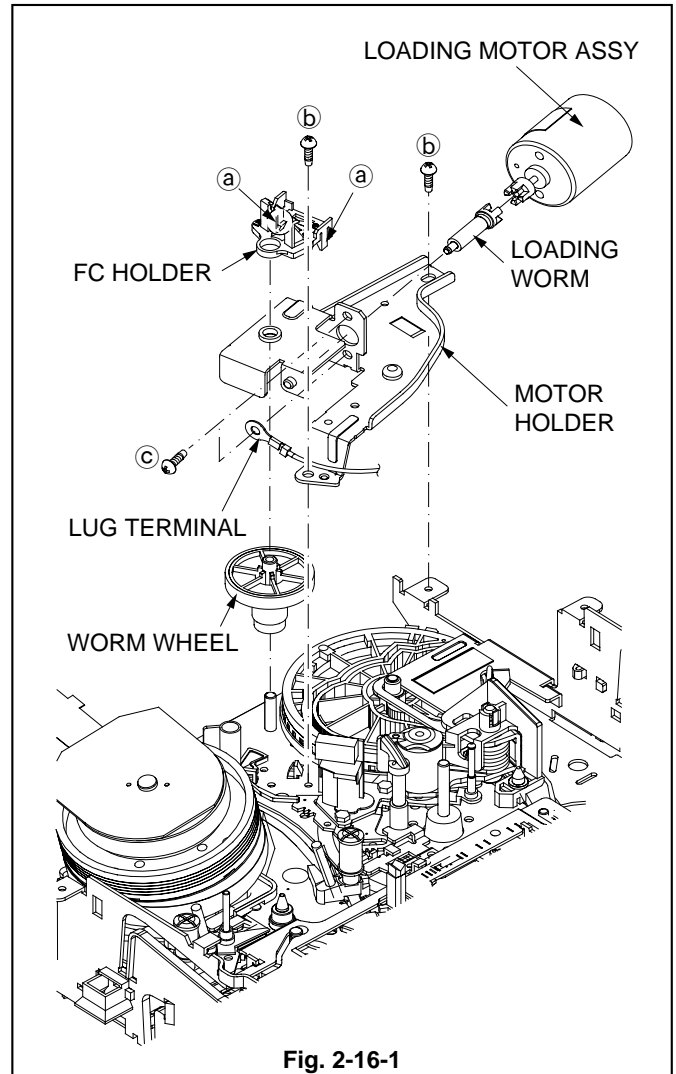

Fig. 2-16-1
1. Release the two catches (a) of the FC HOLDER shown in the Fig. 2-16-1 to remove the FC HOLDER.
2. Remove the two screws (b) fastening the MOTOR HOLDER shown in the Fig. 2-16-1 to remove the MOTOR HOLDER.
3. Remove the two screws (c) fastening the LOADING MOTOR ASSY shown in the Fig. 2-16-1 to remove the LOADING MOTOR ASSY and LOADING WORM.
Note : Tighten the screw (c) shown in the Fig. 2-16-1 after putting the LUG TERMINAL on the screw.